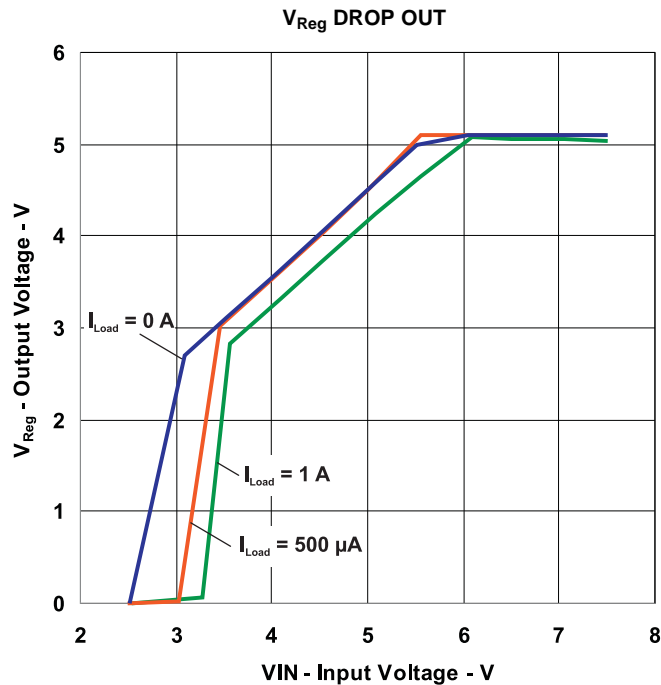
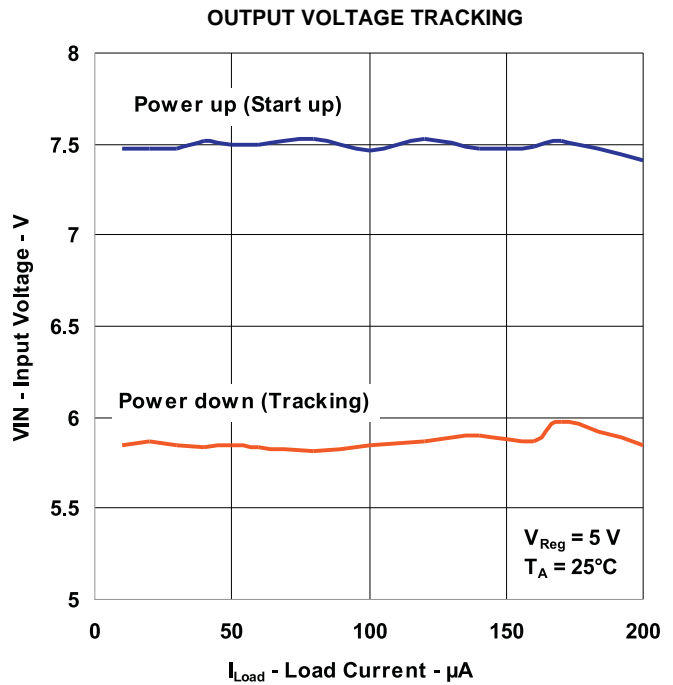

Figure 9.
Figure 10.
- Power up (Start up): This curve shows the input voltage required to achieve the 5 V regulation during power up over the range of load currents (see Figure 10).
- Power down (Tracking): This curve shows the input voltage at which the output voltage drops approximately by 0.7 V from the programmed 5 V regulated voltage (see Figure 10) or for low input voltages (tracking function) over the range of load currents (see Figure 9).
The output tracking depends upon the loading conditions and is explained in Table 1 and is shown in Figure 10.